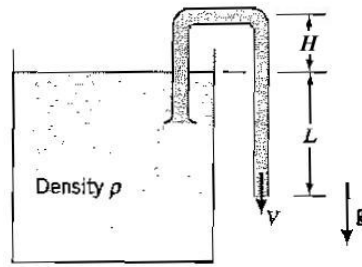

Figure P4.30
4.30 Given the siphon arrangement shown in Figure P4.30, find the exit velocity of the siphon assuming no losses. What limit exists on the maximum value of L if the siphon is to continue to function? What limit exists on the value of H ?